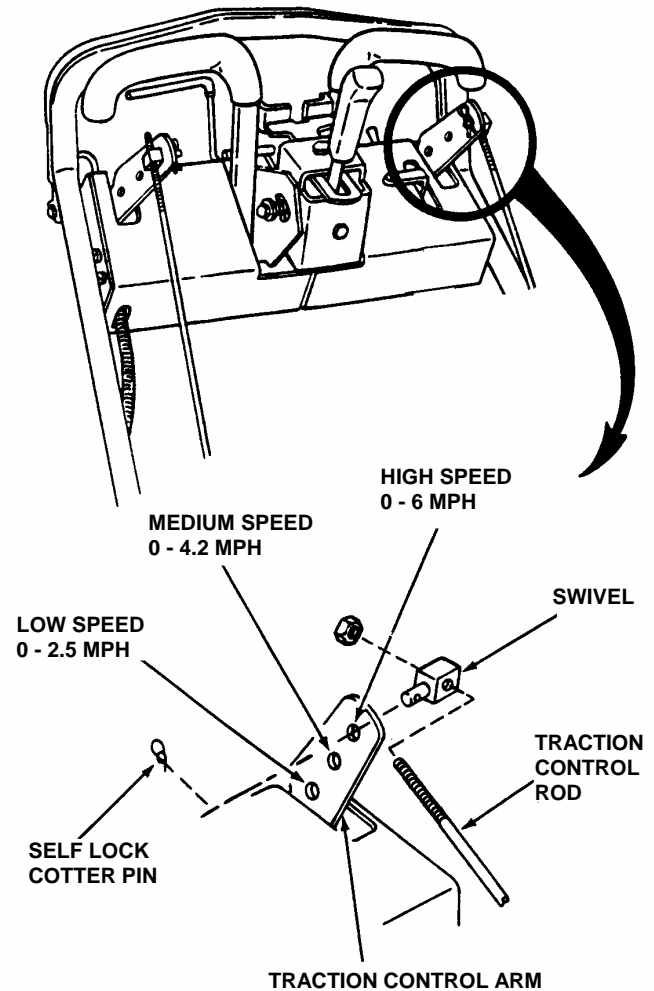

FIGURE 4.5
3. Remove Hairpins from Swivels on Traction Control Arms on Right and Left Hand side. See Figure 4.5.